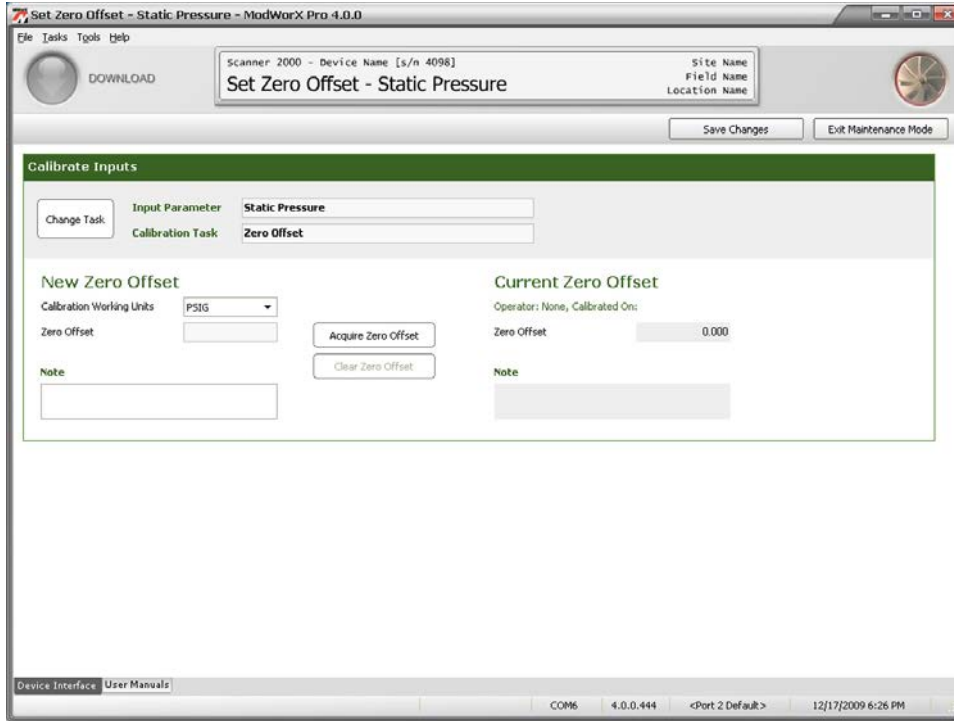

Figure 8.11
3. The Set Zero Offset – Static Pressure screen will appear, and the input parameter and calibration task selections you made will appear at the top of the screen (Figure 8.11, page 110).